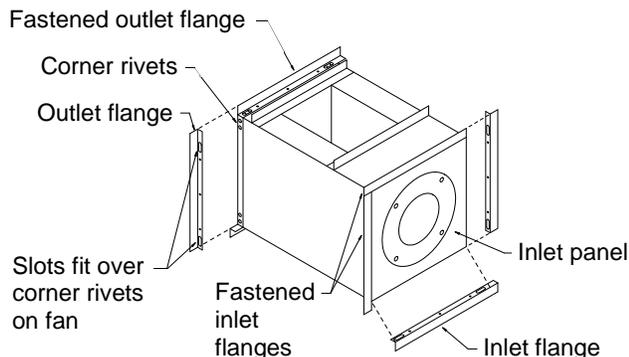

Figure 3.
**Inlet flange installation.** Place one of the flanges on the edge of the inlet panel. Position it so that the end with the slot closest to it is flush with the side of the inlet panel. See Figure 3. Using the self-drilling screws provided, fasten the flange to the inlet panel. Stagger the other three flanges around the fan as shown. Fasten securely to the fan.